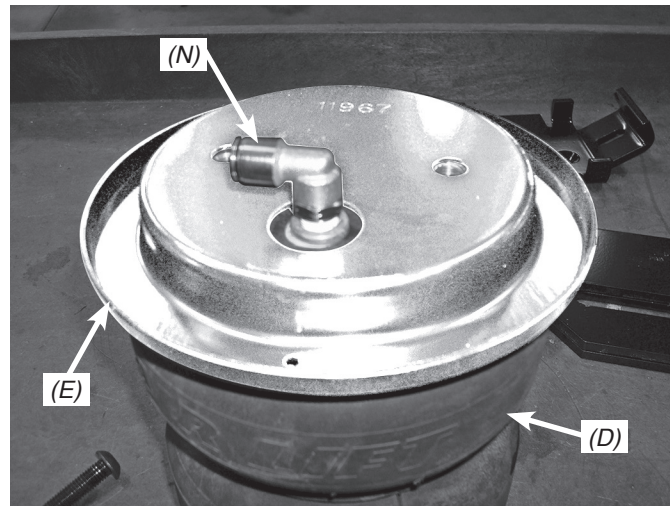

fig. 7
*The radiused (rounded) edge of the roll plate (E) will be towards the bellows so that the bellows is seated inside both roll plates.*
2. Install the swivel fitting (N) into the top of the air spring finger tight plus one and a half turns (Fig. 7).